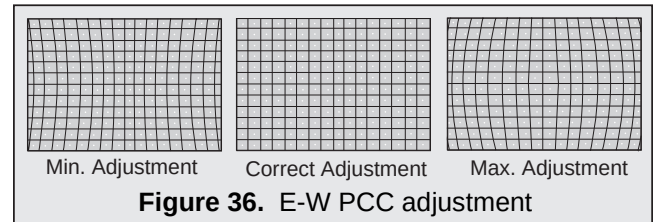

Figure 36. E-W PCC adjustment
1. Adjust "PCC" DATA so that the 1st line and 3rd line make a good balance (see Fig. 36).